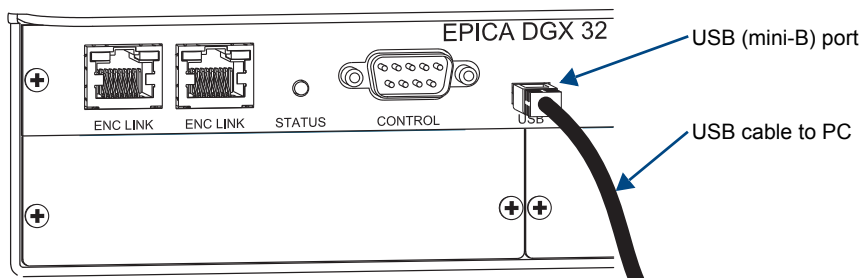

FIG. 20 USB cable connected to USB port on Epica DGX 32 and to PC
3. Connect the enclosure to a PC running Windows using the USB cable provided by AMX (FIG. 20).